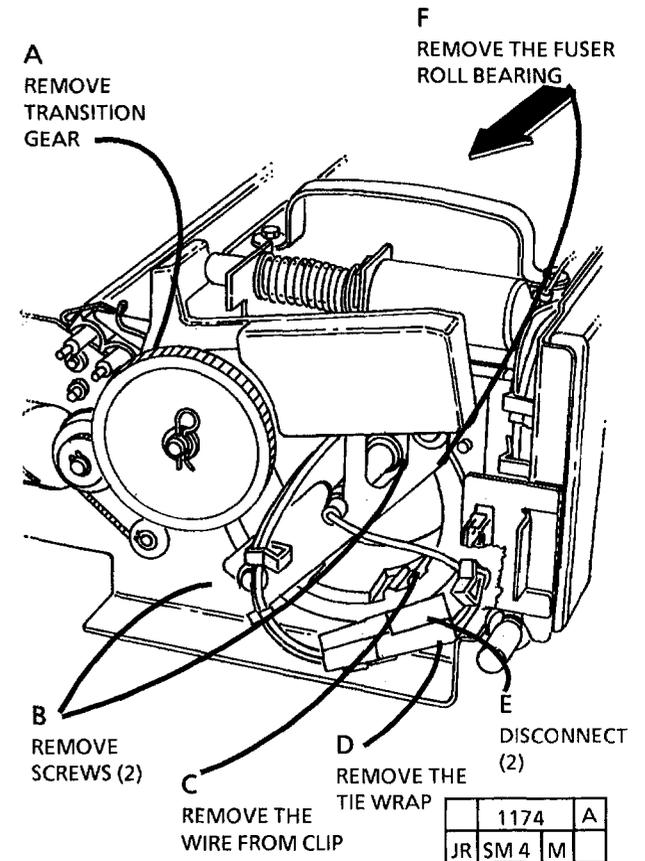

Figure 9. Prepare to Remove the Packing Spring
13. (FIGURE 9): PREPARE TO REMOVE THE PACKING SPRING.